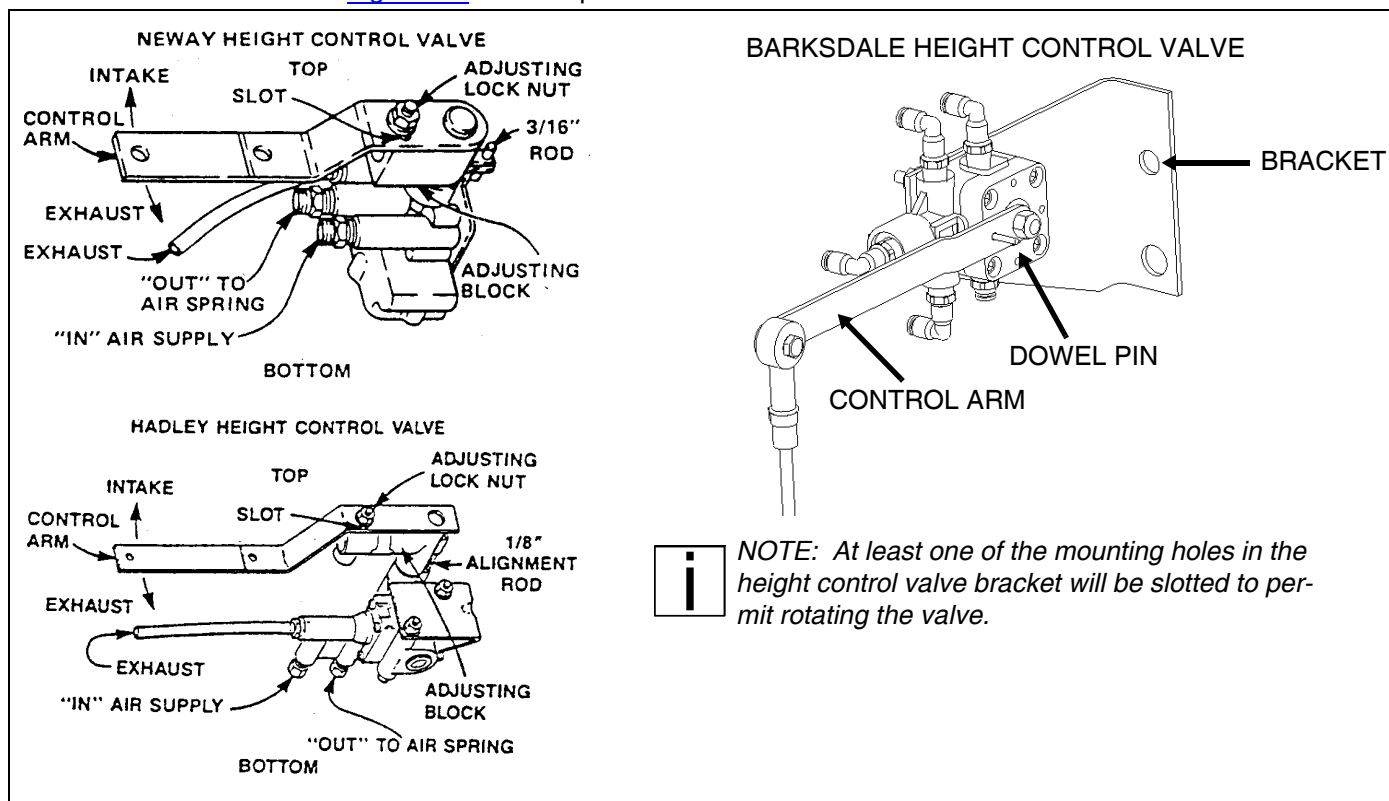

Figure 1-7 Illustrations of Height Control Valves
11. Loosen the fasteners mounting the height control valve to its bracket. See Figure 1-7 for examples.